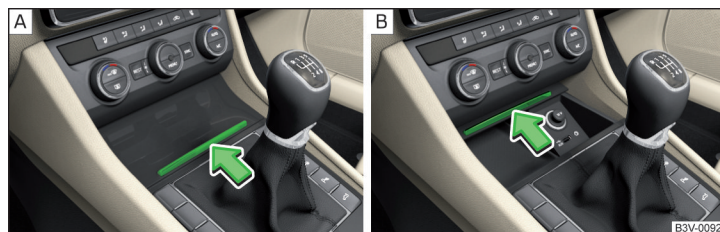

Fig. 83 Storage compartment: open/close
- > To **open**, press the edge of the lid in the direction of arrow » Fig. 83 **A**.
- > To **close**, press the edge of the lid in the direction of arrow » Fig. 83 **B**. The lid closes automatically.